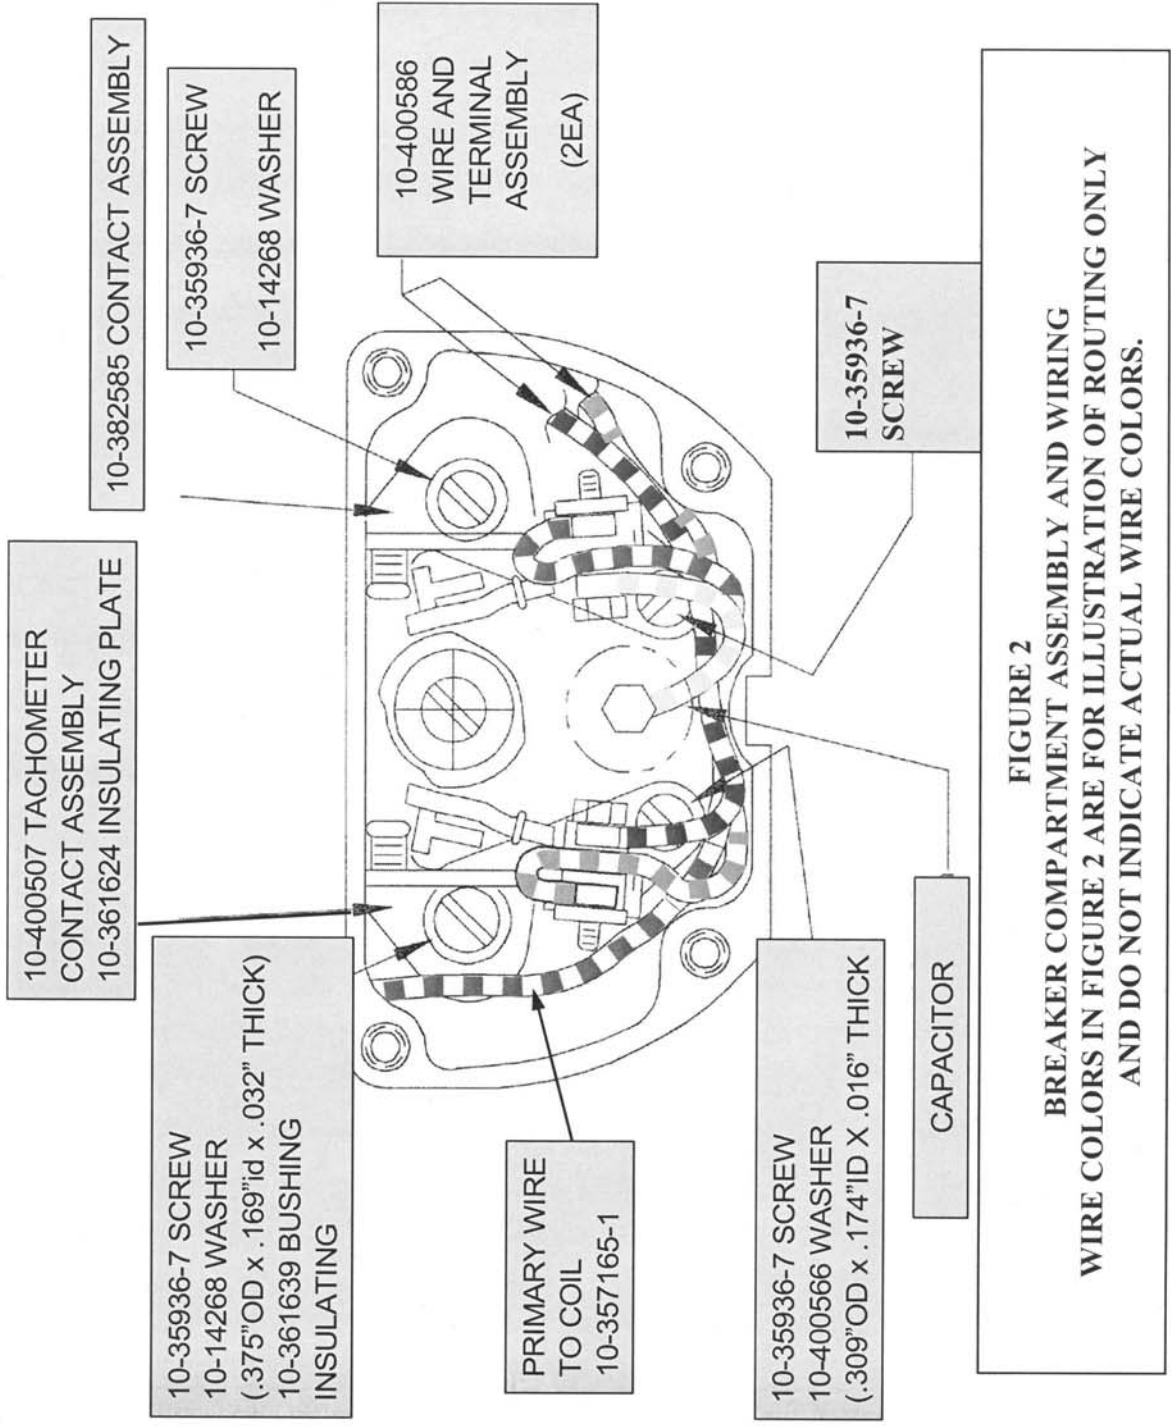

FIGURE 2
1. Parts Assembly: Figure 2 depicts the correct current configuration of parts, assemblies and wiring in the magneto breaker compartment of the affected magnetos.
- (b) Any bushing found to have parallel laminations as shown in Figure 2 must be replaced before further service.
2. The breaker compartment features four wires that must be assembled properly to ensure continued reliable service: the coil primary wire, the two tachometer wires, and the capacitor wire. (See FIGURE 2.) Whenever access allows, inspect wires to ensure that they are free of cuts or chafing damage. Wires must be routed as shown in FIGURE 2 to ensure that they do not interfere with the rotating cam and associated parts during operation, and to ensure that no wire is pinched between the breaker cover and distributor housing at assembly. Any excess coil wire may be protected by bending it away from the cam. Coil and capacitor wires feature insulation that is relatively soft. Indentations on the insulation on these parts are normal and expected. Any exposed wire strands is cause for replacement. Replace damaged parts as necessary. The two tachometer wires use a short length of tubing as an assembly aid: the position of the tubing at
WIRE COLORS IN FIGURE 2 ARE FOR ILLUSTRATION OF ROUTING ONLY